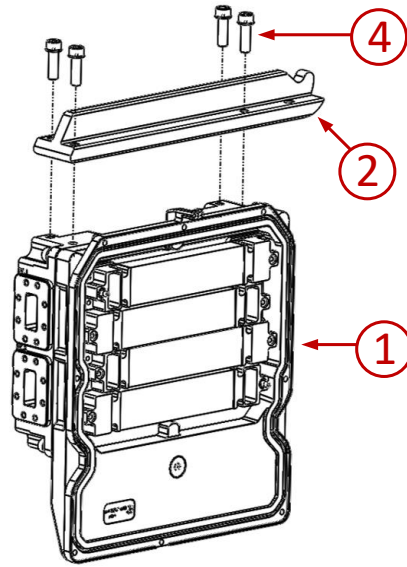

Figure 48: Right Rail Configuration
- With the nose of the rail protruding to the right when facing the inside of the OCU (Figure 48).